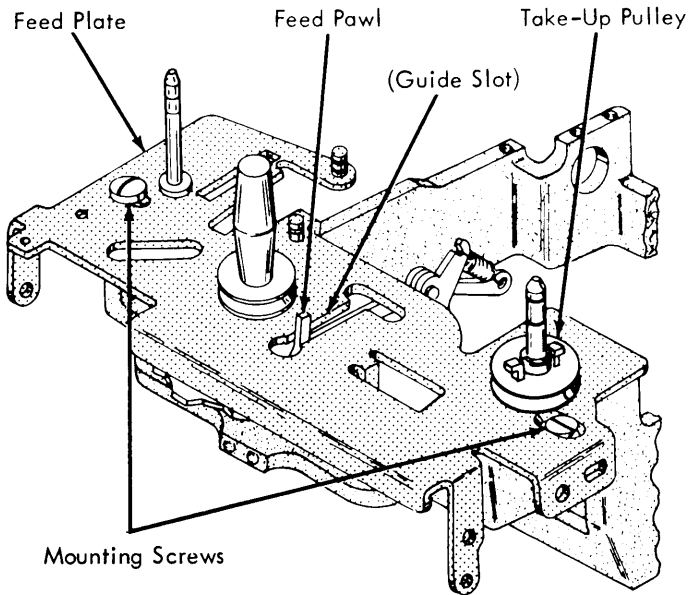

FIGURE 189. Ribbon Feed Plate
1. Ribbon Feed Plate - Position the feed plate left or right under its mounting screws to allow the feed pawl to operate front to rear in the guide slot of the feed plate without binding (Fig. 189).